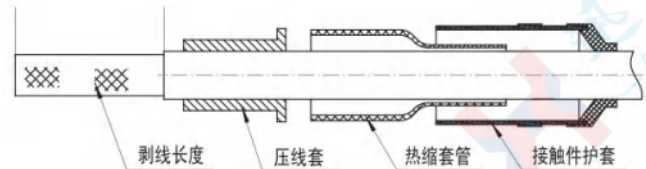

图 1.3 剥去电缆外套
- 2) Strip the cable jacket according to the dimensions marked in Figures 1.3 and 1.4 (stripping length for pins is 10mm, and 15mm for sockets). Carefully comb out the shield layer, fold it back onto the crimp sleeve, and cut off the internal filler of the cable near the shield layer;